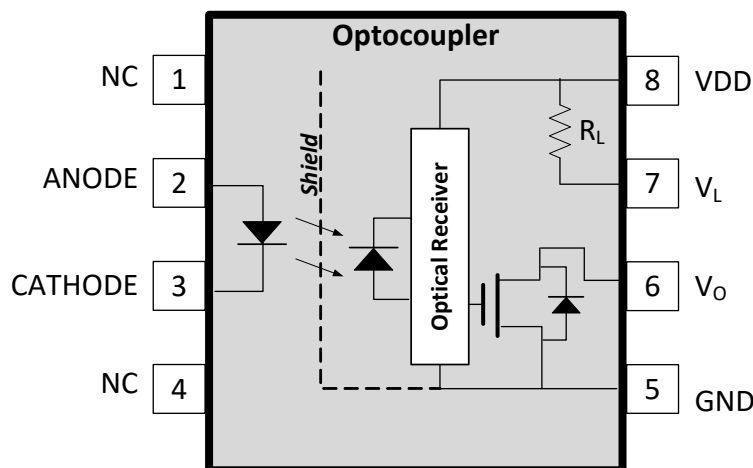

Figure 1. Optocoupler Block Diagram
The optocoupler of Figure 1 consists of an input side LED with a transparent shield (to reduce capacitive coupling for higher CMTI), an optical receiver, and an open-collector output. The LED emits light when sufficient current flows from anode to cathode. Emitted light passing through the transparent shield strikes the receiver's photo diode, initiating bias current flow from VDD and causing the open-collector output to go low. Absence of current through the input side LED causes the open-collector output to remain high.
- Updated Figure 1 on page 1.